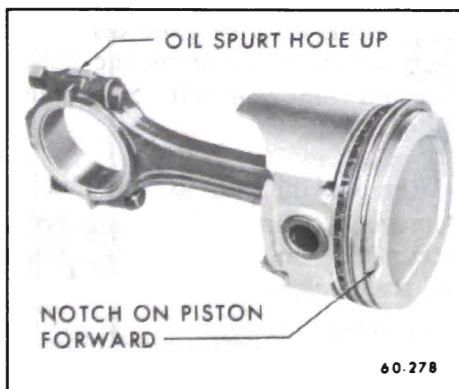

Figure 60-143--Piston and Rod Assembly
3. Position piston on connecting rod with appropriate side of piston and oiling hole in connecting rod aligned. See Figure 60-143.